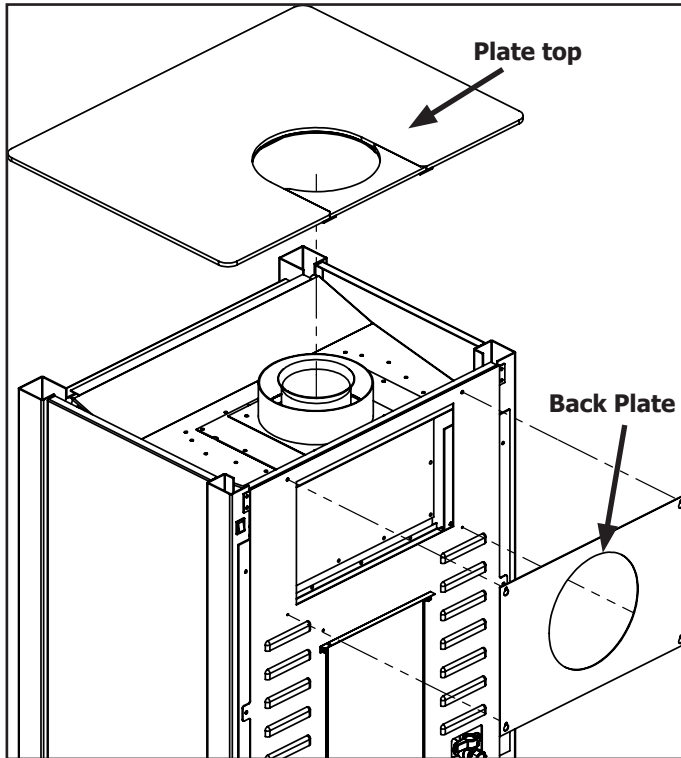
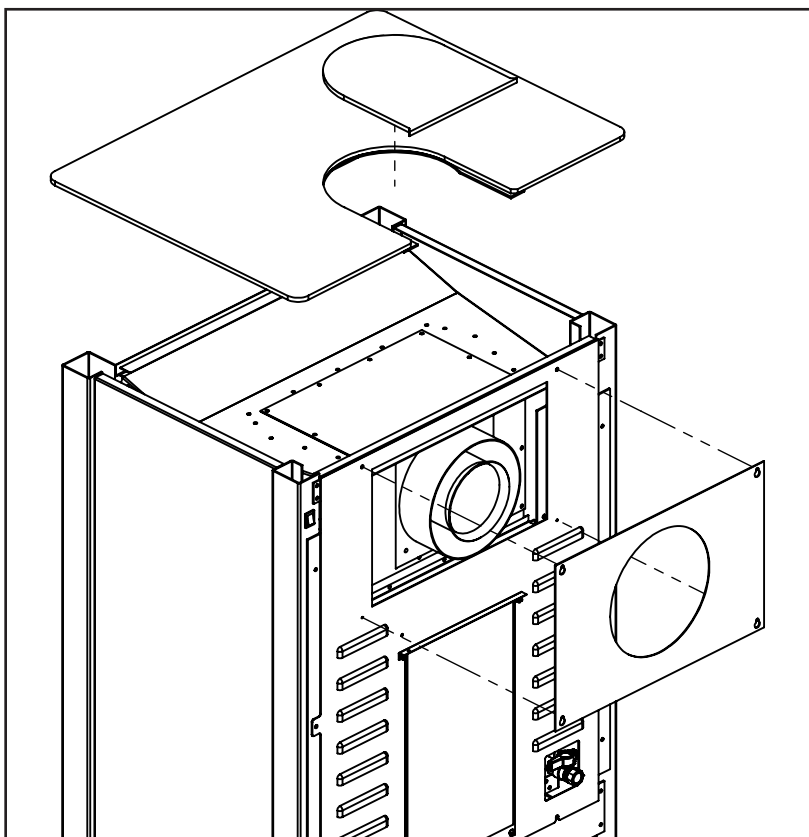

Figure 23. Vent Conversion - Step 1
Figure 26. Vent Conversion - Step 4
Step 1: Using a T20 screwdriver loosen the four screws retaining the back plate and unhook it. Then remove the cast top by simply lifting up as shown in Figure 23.
Step 4: Re-install the cast top by aligning the bolt heads on the bottom side with the rear mounts (see Figure 23). Re-install the back plate and tighten the four retaining screws. Finally, install the cast vent cover supplied with the S201 as shown in Figure 26.